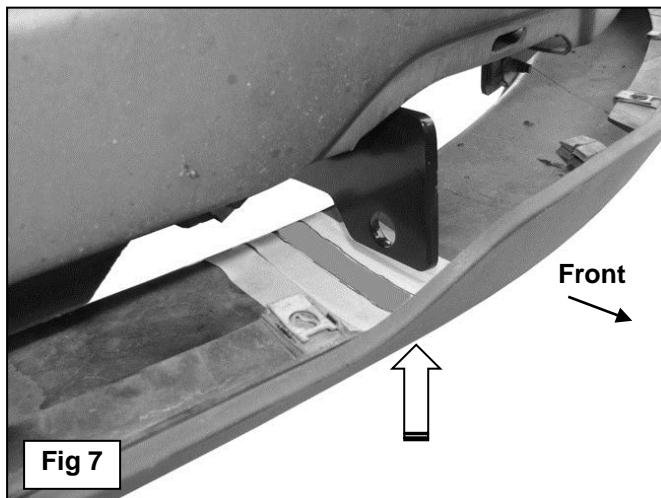

Fig 7
- e. Hold the bumper cover up to the vehicle and mark the location of the (2) Brackets onto the inside of the cover, (Figures 7 & 8). Carefully cut (2) slots through the cover wide enough to clear the (2) Brackets, (Figure 9). **IMPORTANT:** Do not cut through the top or bottom edge of the cover. Reinstall the cover with the factory hardware.